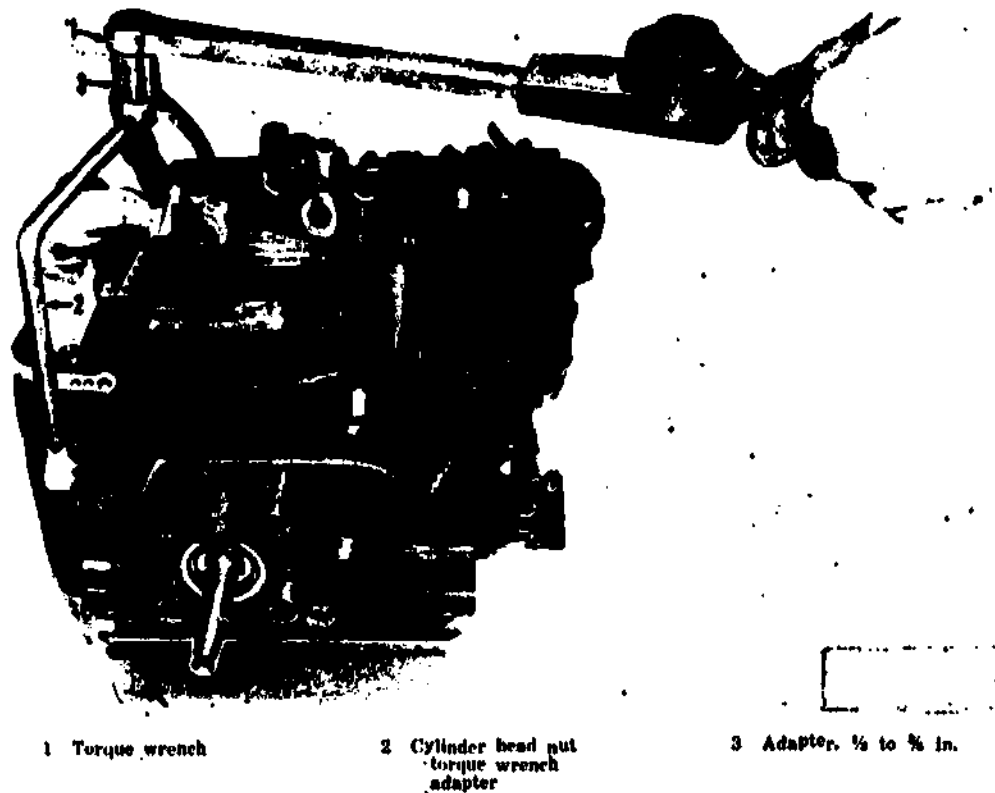

Fig 2-8. Cylinder head nut torque wrench adapters.
The 10-hp engine is also a 2-cylinder engine, but the timing marks are lined up by removing the No. 1 spark plug and cranking the engine until you feel compression, then aligning the flywheel and housing marks. The camshaft and magneto gear marks must also be aligned. The flywheel mark will be top dead center (TDC), but for checking with a timing light the mark will be IGN. No. 1 cylinder of the 10- and 20-hp engines is marked on the engine cowling. The 20-hp engine timing (fig 2-8) is basically the same as the 10-hp except that the magneto is rotated so that it will impulse and fire No. 1, then impulse three more times. The camshaft and magneto gear marks are then aligned when installing. Ignition of these two engines can be advanced or retarded slightly by loosening the mounting bolts and rotating the magneto.
- (e) Cylinders and cylinder heads. The military standard gasoline engines are valve-in-head type engines; the valves can be adjusted by removing the rocker covers. The cylinder heads and the cylinders are replaceable, but special tools are required for their removal. Therefore, a valve job cannot be done without the special wrench to remove and install the cylinder head. Figure 2-8 shows the special wrench being used to torque the cylinder heads. If either the cylinder head or the cylinders are removed, replace the gaskets before reinstalling.